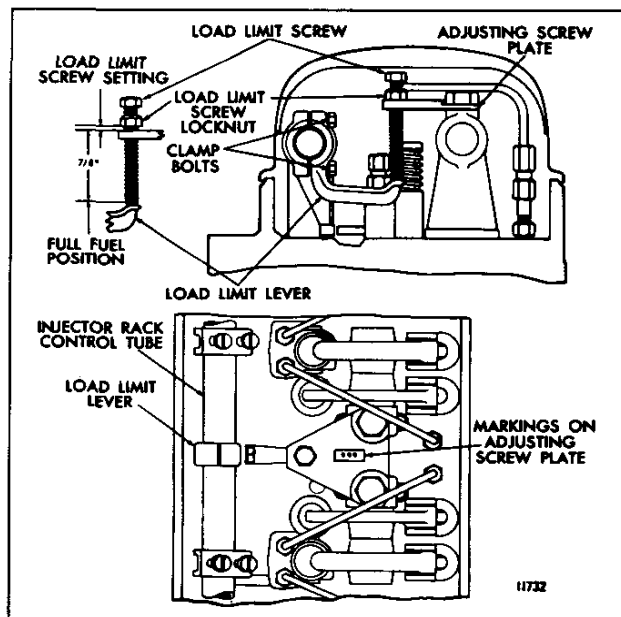

Fig. 1 – Engine Load Limit Device
After the engine tune-up is completed, make sure the load limit device is properly installed (Fig. 1). Make sure the counterbores in the adjusting screw plate are up. The rocker arm shaft bracket bolts which fasten the adjusting screw plate to the brackets are tightened to 50-55 lb-ft (68-75 N·m) torque. Then adjust the load limit device, on each cylinder head, as follows:
3. With the screw out of the plate, adjust the load limit screw locknut so the bottom of the locknut is 7/8" from the bottom of the load limit screw for the initial setting (Fig. 1).